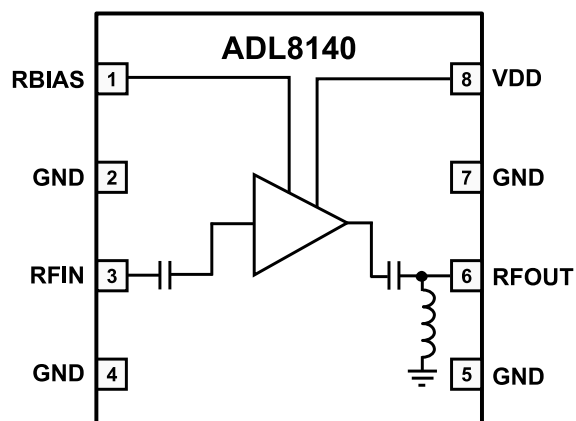

Figure 1. Functional Block Diagram
- ▶ Noise figure: 1 dB from 12 GHz to 15 GHz